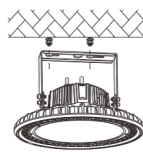
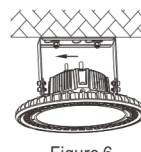

Figure 5
Figure 6
- 3.The holes on the bracket align with the expansion screws (Figure 5), then push the light to one side (Figure 6),